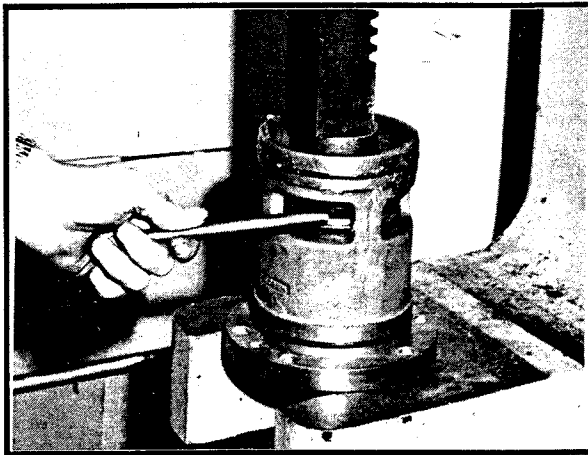

Figure 3-18 Removing Piston Blocks
5. With piston blocks removed, piston (Item 7) and spring (Item 14) can be removed from cylinder (Item 16). Reference Figures 3-18, 3-19 and 3-20.